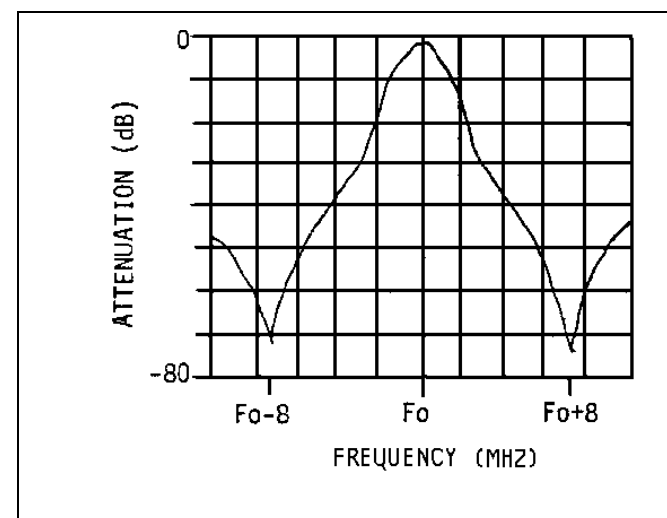

Figure 2
5. Tune capacitors A and B to obtain rejection notches at approximately 8 to 10 MHz away from the center frequency, as shown in Figure 2.
8. Tune capacitors C and D to obtain rejection notches at approximately 8 to 10 MHz away from the center frequency, as shown in Figure 2.